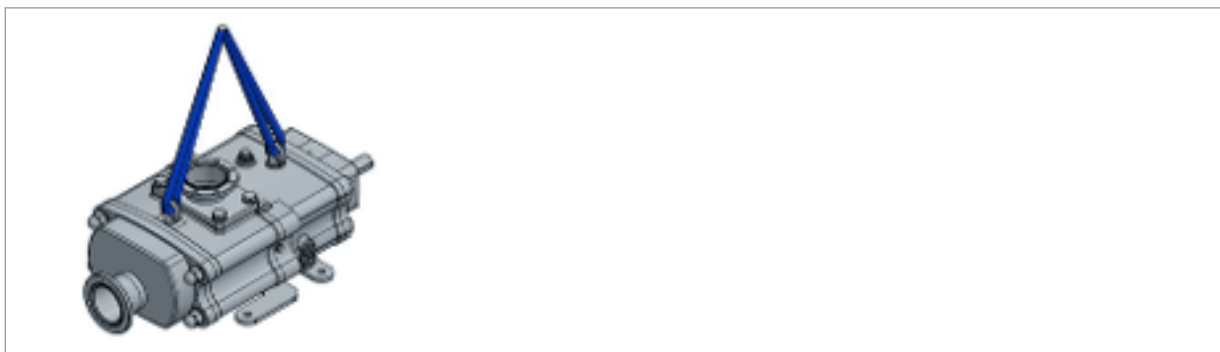

Fig. 8: Lifting the pump with lifting lugs
1. ➔ Select lifting lugs according to Fig. 8 and ➔ Tab. 1 'Thread sizes for lifting lugs' on page 28 and attach them to the pump.
2. ➔ Fasten cables, straps or multi-point hangers in accordance with Fig. 8.